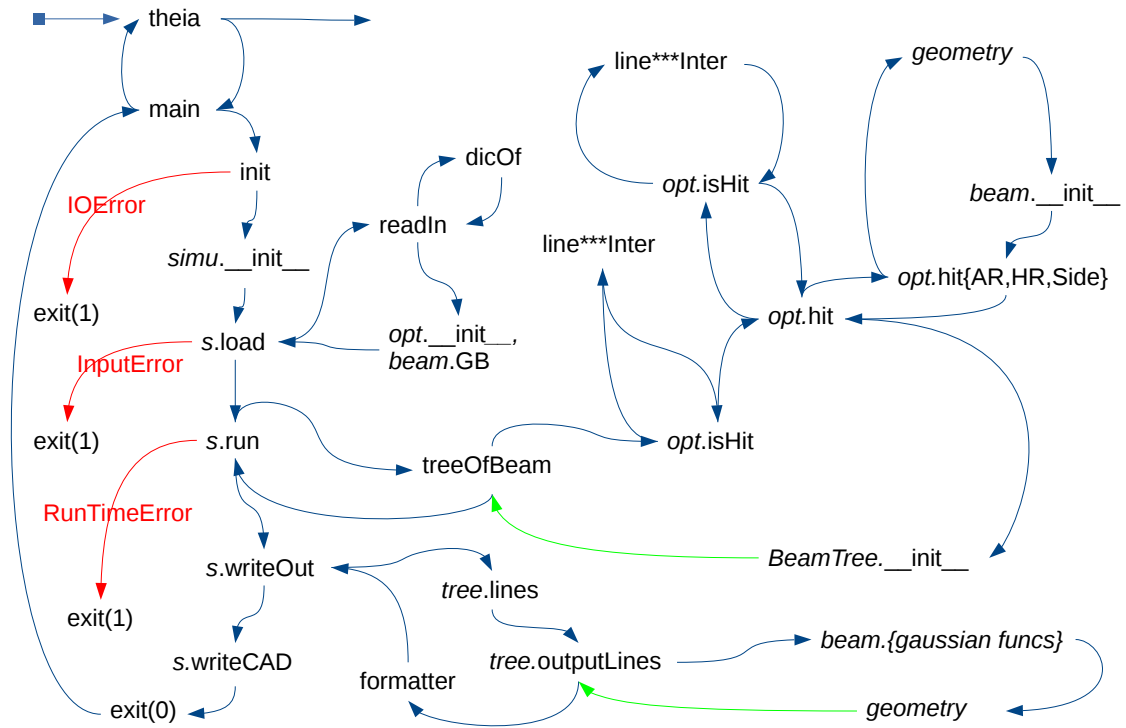

Figure 4: Call graph of the theia CLI tool. *italics*: generic object or group of methods, **green**: recursive call, **red**: handled exception.
Here (figure 4) is the call graph of the **theia** CLI tool, from which one can easily deduce the call graph of any individual function. You can refer to the *API Guide* or the online API documentation to find out in which module the functions are defined.
**Note on the call stack.** According to this call graph (figure 4), the stack has a maximum height of  $9 + 2(n - 1)$  when there are  $n$  levels of recursion. Generally, the program crashes – if it crashes – by recursion depth limit exceeding (leading to a handled `RuntimeError` exception and an exit with an error code of 1) before causing a stack overflow.